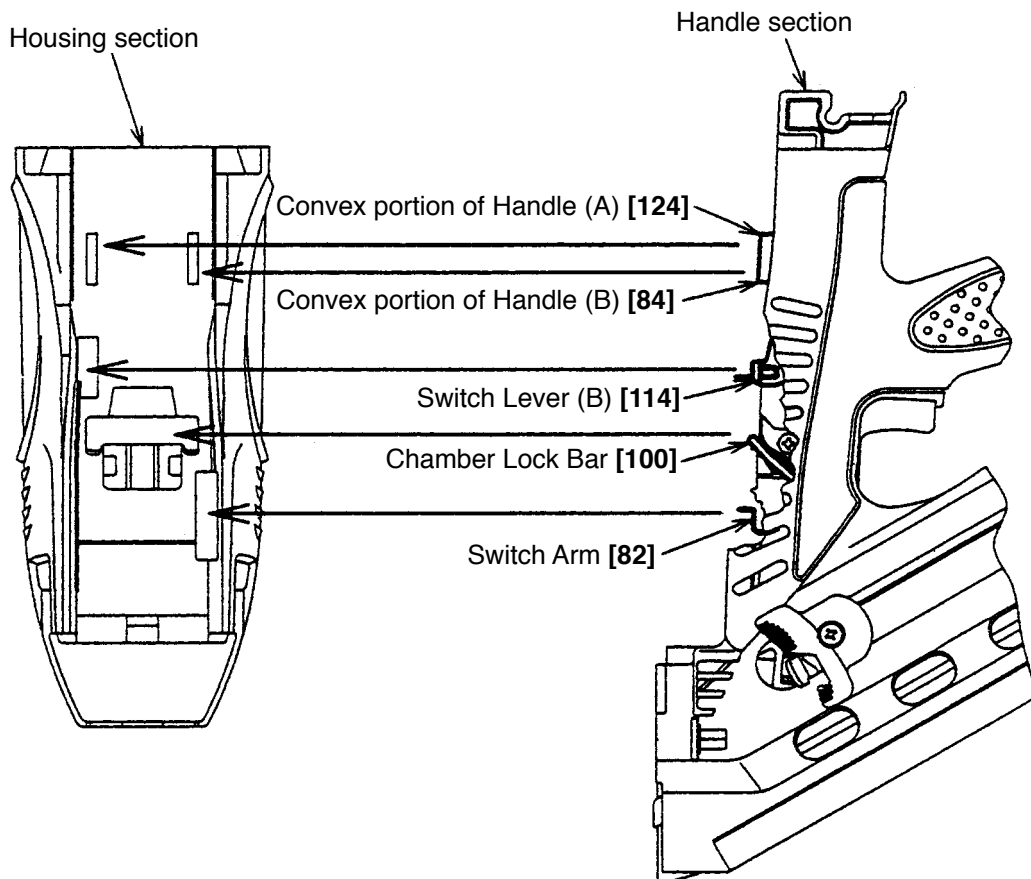

Fig. 32
- Check that each lever protruded from the handle section fits in each hole on the side of the handle of the housing section (Fig. 32).
- Align the Pushing Lever [64] with Adjuster Bush (S) [67] fitting the convex portions in the concave portions before tightening the Hex. Socket Hd. Bolt M5 x 10 [66].